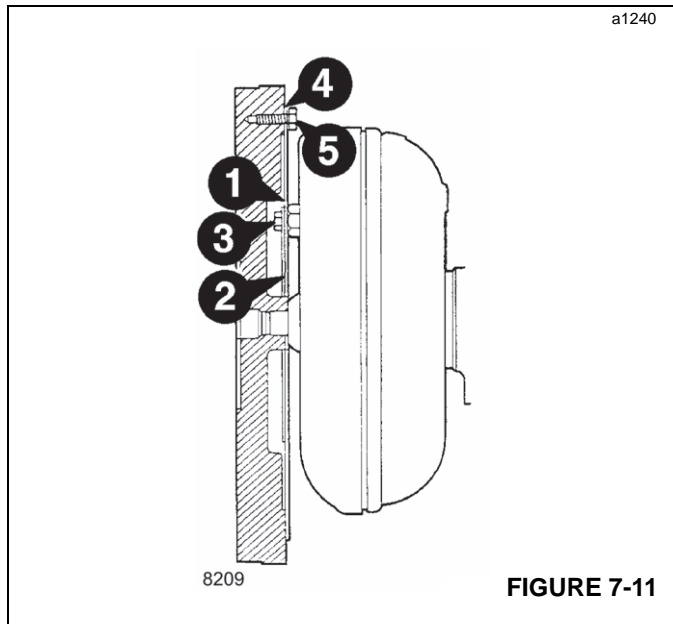

FIGURE 7-11
1. Place the drive plate and annulus (1 Figure 7-11) onto the torque converter.
- e. Remove the access plate from the bottom of the engine flywheel housing and, through the access hole, fit and hand tighten one bolt (3, Figure 7-11) in the six o'clock position.
**NOTE:** It is important to mount washers (4) with the outside diameter radius against the drive plate, that is, facing towards the flywheel.
- f. Rotate the flywheel until the next bolt hole is accessible. Apply Loctite 243 to the threads of the next bolt (3) then fit and hand-tighten. Repeat this operation until all bolts are installed. Finally, torque all bolts (3) to 19 Nm (14 lb-ft), rotating the flywheel each time to align the bolts with the access hole. Re-install access plate.
1. Assemble the drive plate and drive plate annulus (1, Figure 7-11) to the torque converter using bolts (3), finger tighten at this time.
2. Bolt drive plate to flywheel and check that run-out of pump drive shaft (B) does not exceed maximum permissible 0.38 mm (0.015 in). If incorrect, tap torque converter by hand to reposition.
4. Apply Loctite 243 to threads of bolts (3) and tighten to 40 Nm (30 lb-ft).
5. Fit torque converter/drive plate sub-assembly to flywheel; align marks, then fit washers (4) and bolts (5). Apply Loctite 243 to bolts (5) and tighten to 19 Nm (14 lb-ft).
**NOTE:** It is important to mount washers (4) with the outside diameter radius against the drive plate (that is, facing toward the flywheel).